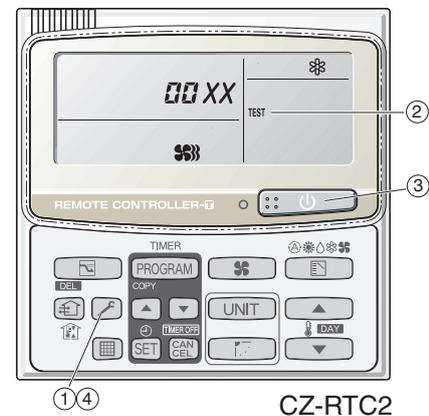

Fig. 7-3
- "TEST" appears on the remote controller LCD display (Fig. 7-3).